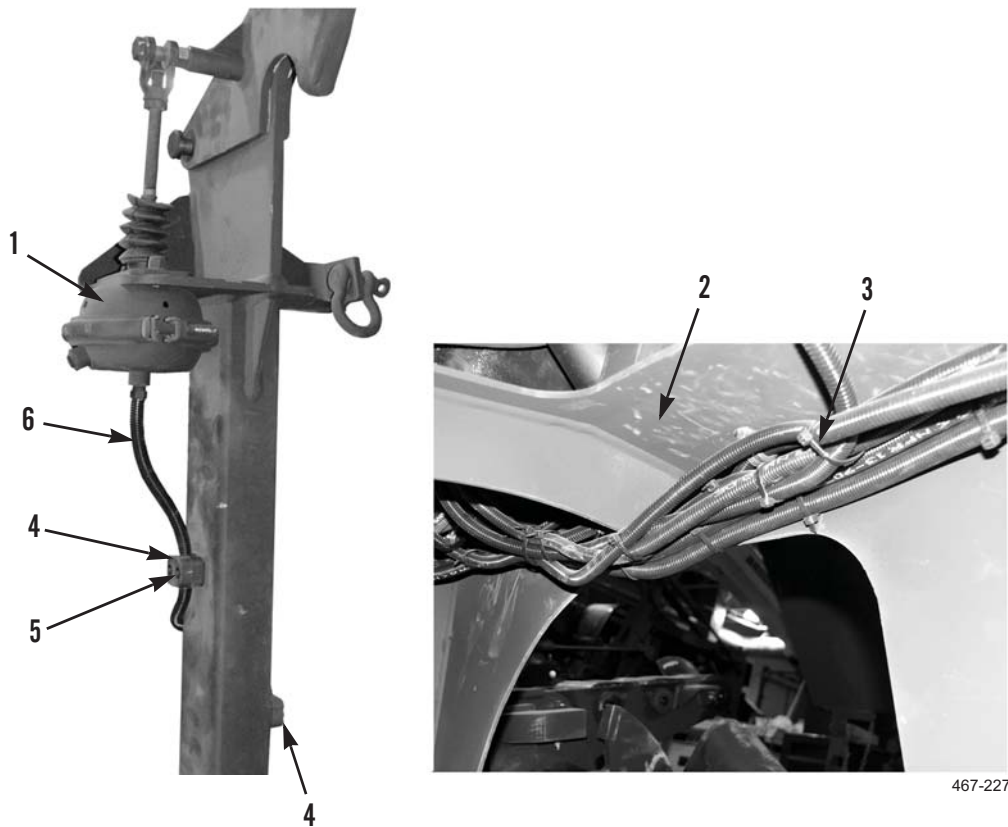

Figure 7. Latch Actuator Hose Installation.
1. Route latch actuator hose (Figure 7, Item 6) from under stowage assembly (Figure 7, Item 2) toward latch actuator (Figure 7, Item 1).
2. Install new tiedown straps (Figure 7, Item 3) as required.
3. Install latch actuator hose (Figure 7, Item 6) in three hose clamps (Figure 7, Item 4) and tighten six screws (Figure 7, Item 5).
4. Install latch actuator hose (Figure 7, Item 6) on latch actuator (Figure 7, Item 1).